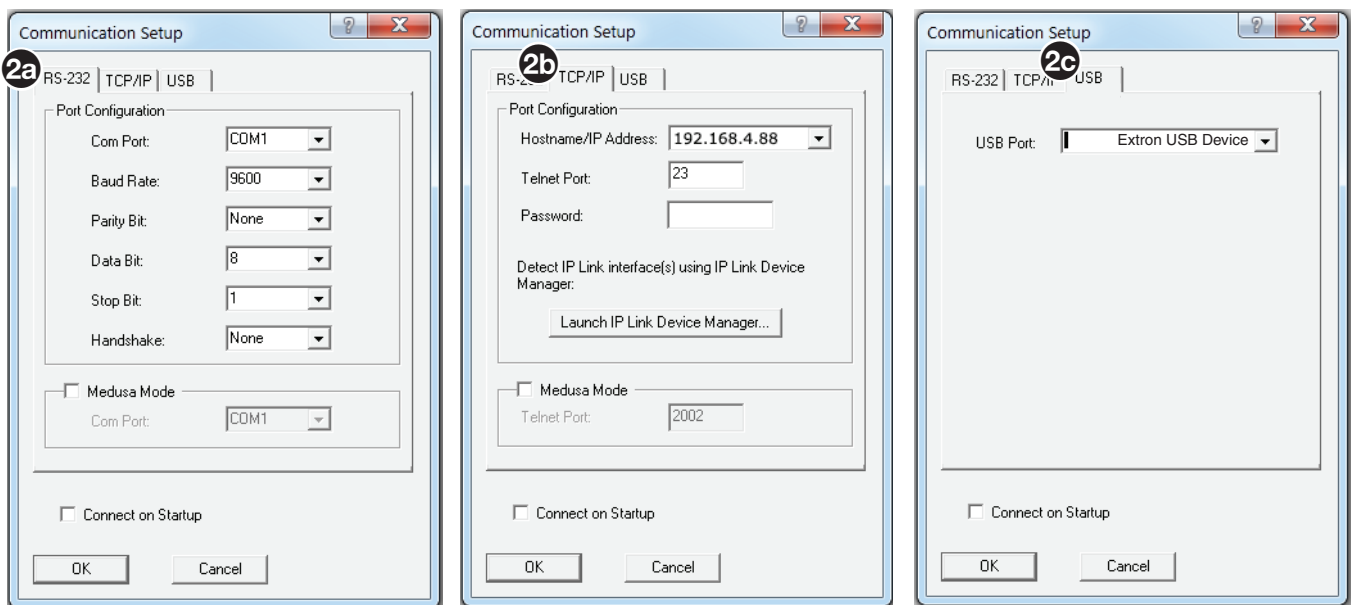

Figure 63. Communications Dialogs
3. On the **Communication Setup** window (see figure 63 on the previous page):